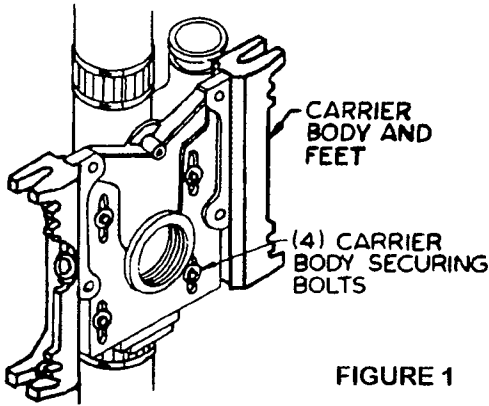

FIGURE 1
1. Install fitting assembly in waste line to required pitch. Place carrier body in siphon jet position and adjust it to the required roughing. Align oval fitting gasket with inlet opening in fitting and clamp it between fitting and carrier body with the four carrier body securing cap screws. Tighten all cap screws uniformly to a torque between 20 and 25 foot pounds. See Figure 1.